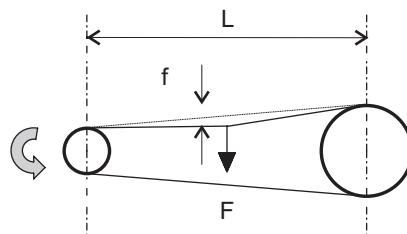

Figure 2 - Control of belt tautness
- Apply force F perpendicular to the free section in the middle, resulting in arrow f in the belt being equal to 1.6 mm by 100 mm of free section length (figure 2);